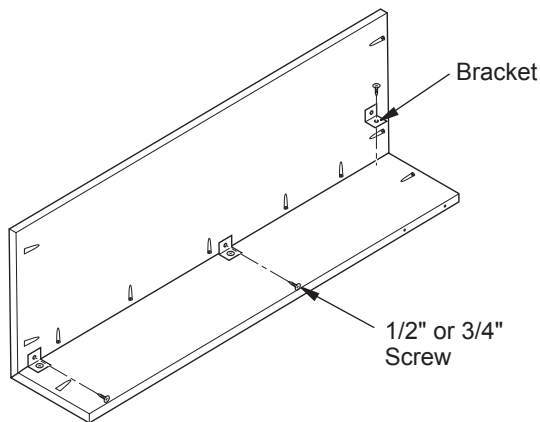

Figure 2 - Installing Brackets
2. Each leg assembly will use 3 brackets for stability. Your bracket hardware kit will contain either 1/2" or 3/4" screws. Using 1/2" or 3/4" screws, install a bracket in the center of each leg assembly and one at each end within 1" of but not over the last pocket hole (see Figure 2).